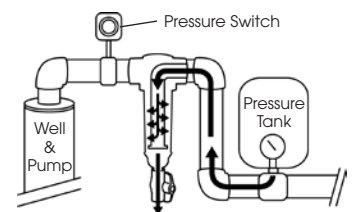

Fig 2. Backflushing.
7. Install the filter on the pressure (discharge) side of the pump, after the pressure switch, to protect the pump and allow the filter to be cleaned without losing pump prime. (See Fig 2.)